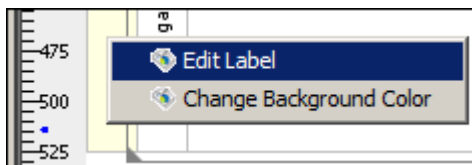

Figure 32: Selecting Edit Label Option for Pool
1. Right-click the Pool and select **Edit Label** option (see Figure 32).